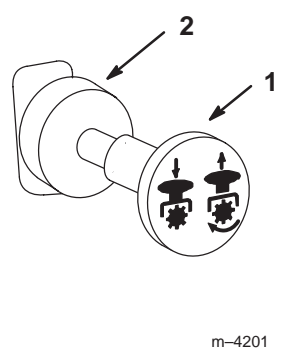

Figure 15
3. Move the PTO (power take off) to the *off* position (Fig. 15).